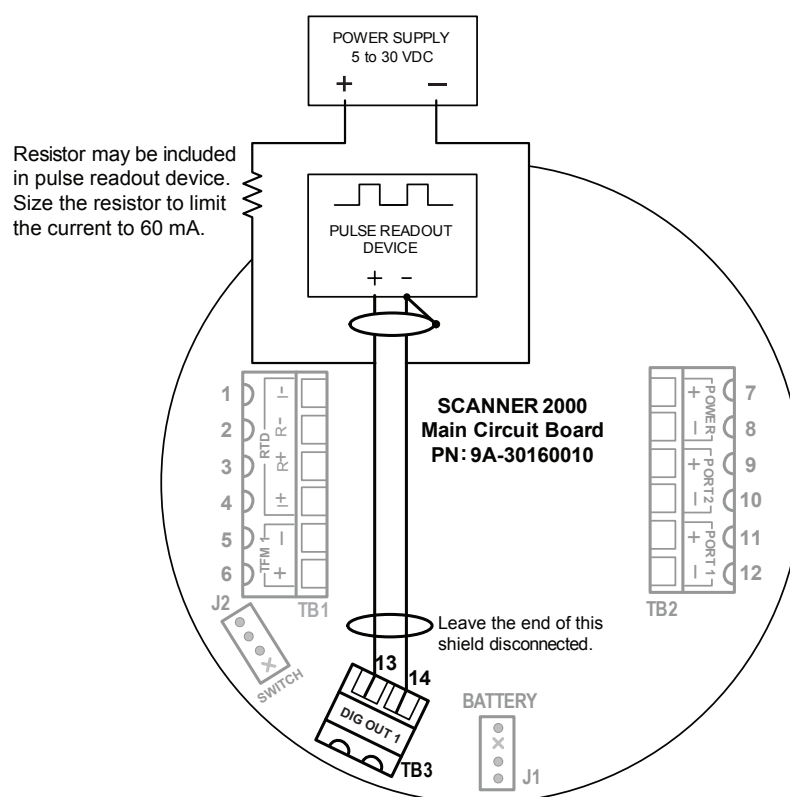
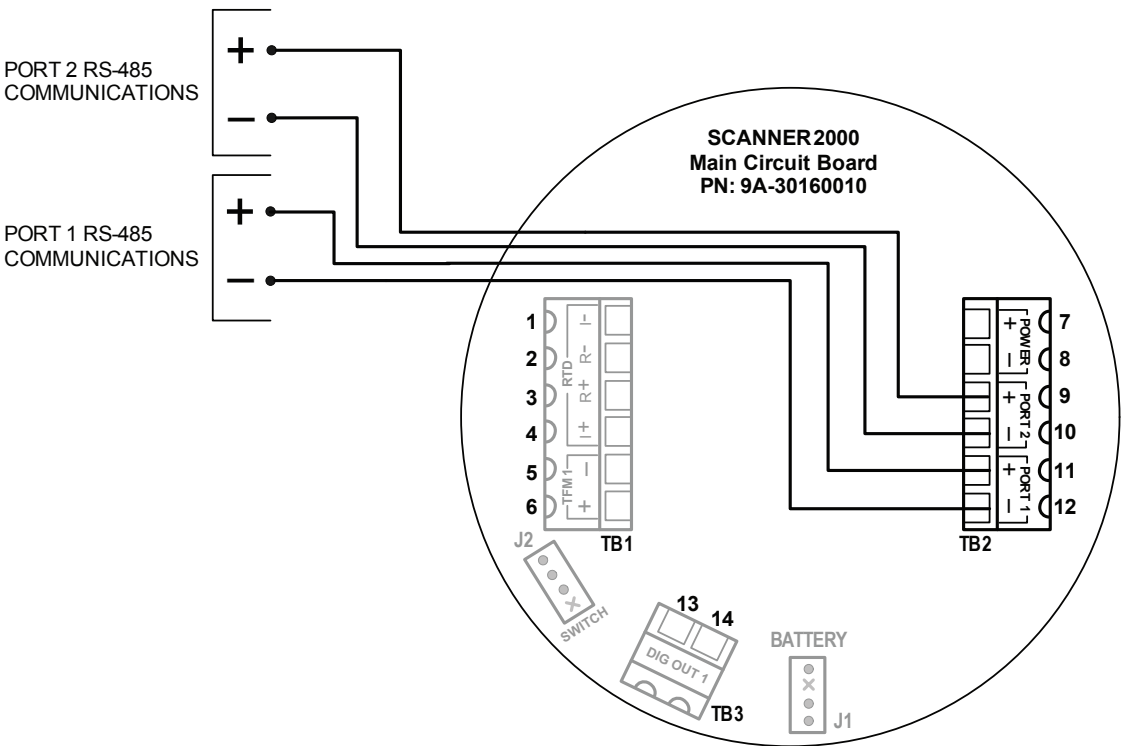
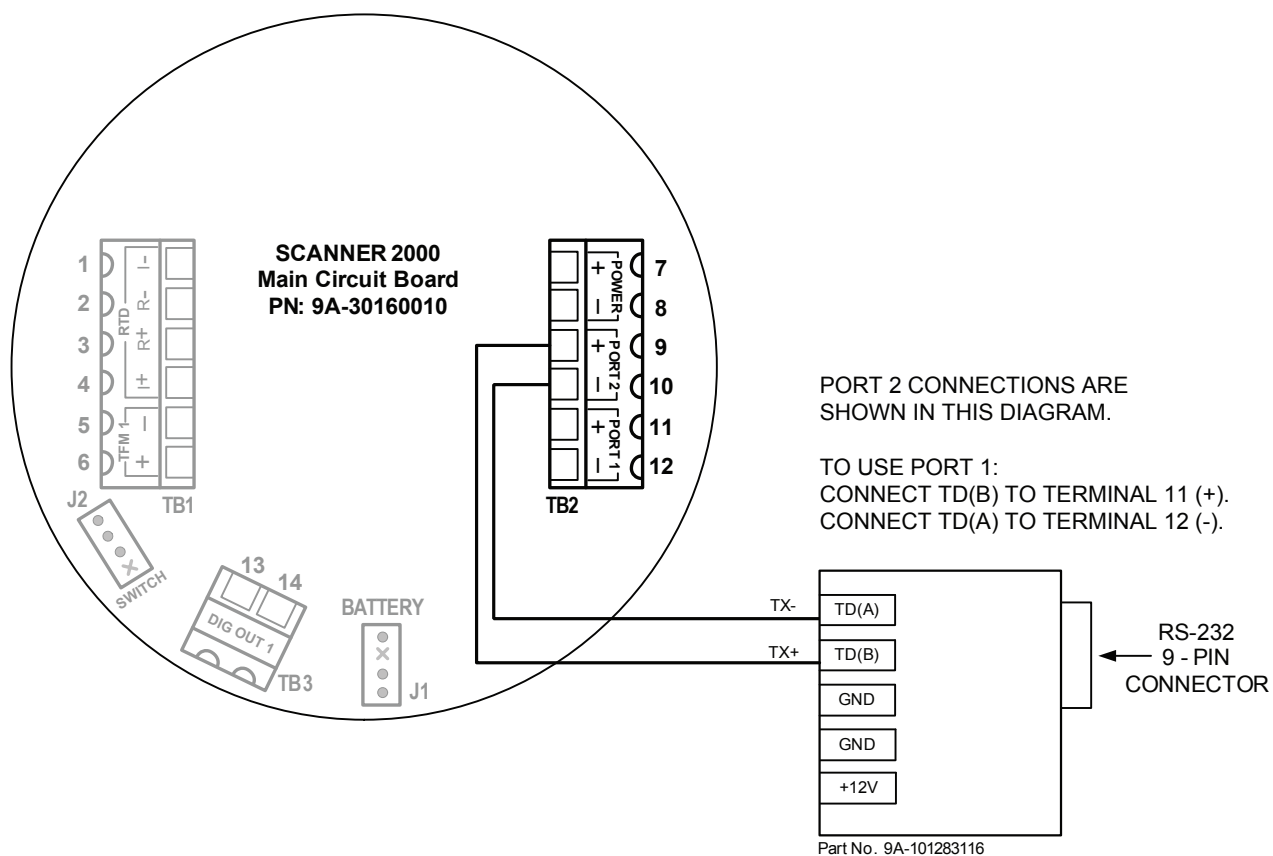

Figure 3.6—Pulse output wiring
Figure 3.7—RS-485 output (permanent connection)
Figure 3.8—RS-485 output (connection to laptop with 9-pin converter)
8. Connect wiring for output signals, if appropriate. See Figure 3.6, page 65, Figure 3.7, page 66, and Figure 3.8, page 67. If the instrument is equipped with an expansion board, connect wiring for expansion board inputs/outputs, if appropriate. See page A-10 for expansion board wiring diagrams.
The standard Scanner 2000 supports a solid-state digital output that is configurable as either a pulse output or an alarm output. As a pulse output, the pulse width duration and pulse representation are both configurable. Because the circuit is isolated, it can be used in conjunction with any other feature on the Scanner 2000. A two-conductor cable from the Scanner 2000 to the remote location is required. The maximum rating of the digital output circuit is 60 mA at 30 VDC. Maximum frequency is 50 Hz. Wire as shown in Figure 3.6.
The RS-485 output is required for communication with the interface software. The wiring diagram in Figure 3.7 supports a permanent connection.
The RS-485 output is required for communication with the interface software. The wiring diagram in Figure 3.8 supports a temporary laptop connections using an RS-232 to RS-485 converter.
An RS-232 to RS-485 converter or NuFlo USB adapter is required for connecting the microEFM to a laptop or PC. The converters available from Cameron require no handshaking or external power to operate. See Section 6—Spare Parts for ordering information; see Figure 3.7, page 66, and Figure 3.8, page 67, for wiring instructions.